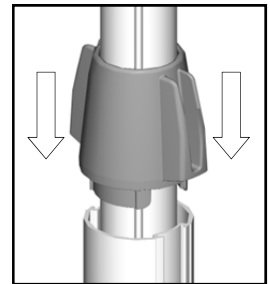

**Figure 33**
**RED ZONE MUST NOT BE VISIBLE FOR THE POST TO BE SAFELY SECURED (see the warning label apposed on each post as shown in Figure 33).**